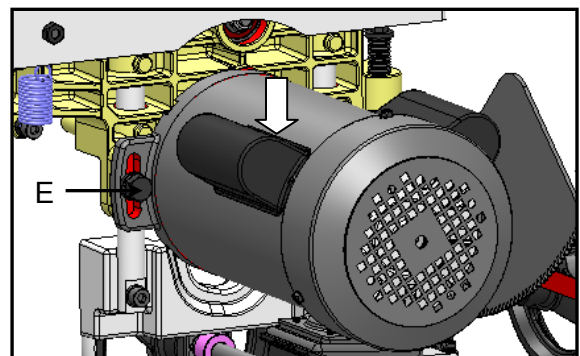

Fig. 33
5. Loosen the Hex screw E, Fig.33 then push the motor down.
7. Tighten the Hex. Screw E, Fig.33 , put the fixing plate. dust hood. storage box and motor cover back to the machine, make sure all screws are tighten.